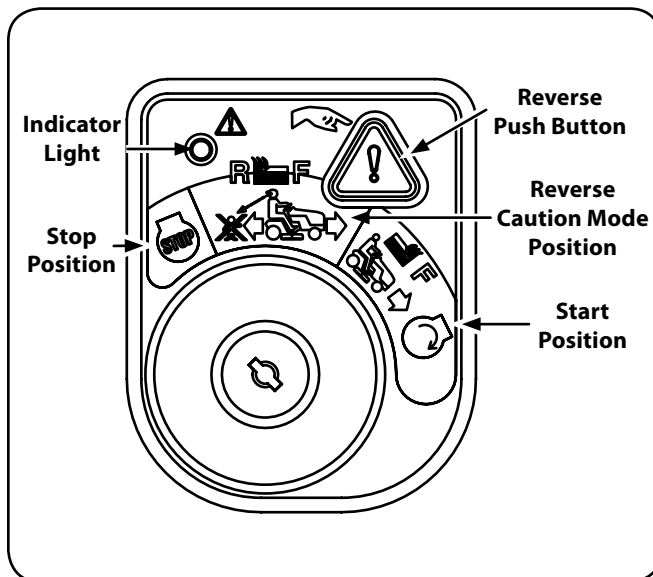

Figure 16
2. Turn the key from the NORMAL MOWING  (Green) position to the REVERSE CAUTION MODE  (Yellow) position of the ignition switch module. See "Figure 16".
3. Press the REVERSE PUSH BUTTON  (Orange, Triangular Button) at the top, right corner of the key switch module. The red indicator light at the top, left corner of the ignition switch module will be ON while activated. See "Figure 16".